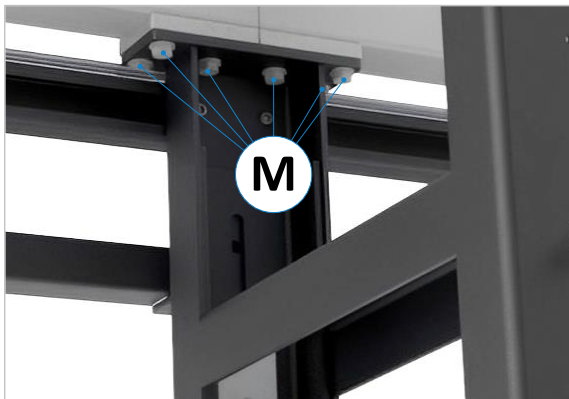

Figure 9: Connecting segments (front side)
- Connect the roller conveyor segments (S) at the joints by inserting the six screws supplied from the top through the mounting holes of the segments and connecting supports shown in \Rightarrow Figure 9. Then screw them together from below with the corresponding washers and nuts (M). Two SW 19 open-ended or socket spanners are needed for this.